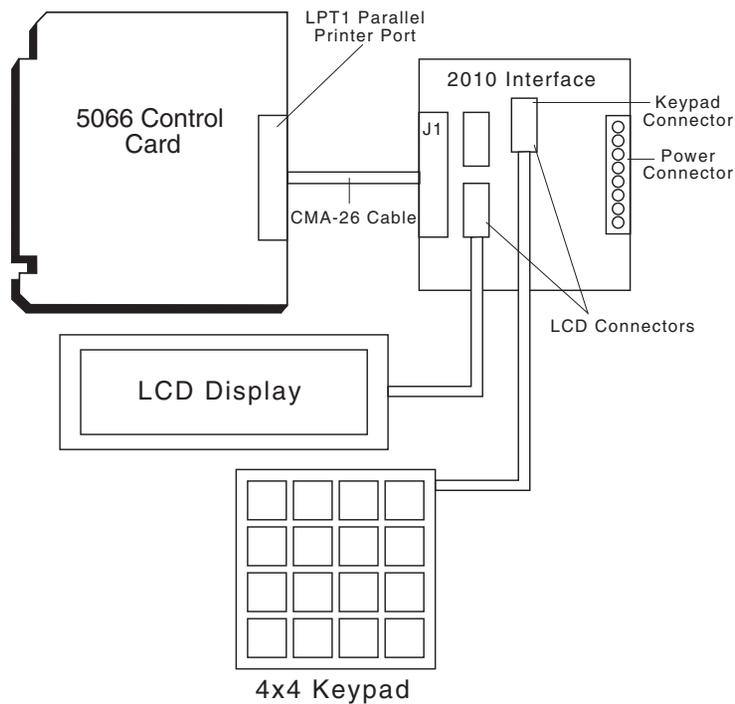

Figure 8-2 – LPT1 as a Display or Keyboard Port
1. Connect a CMA-26 cable from the LPT1 port on the 5066 (J4) to J1 on the 2010. See Figure 8-2.